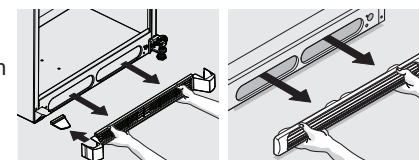

Figure 1
- 1 Remove the toe grille (Figure 1).